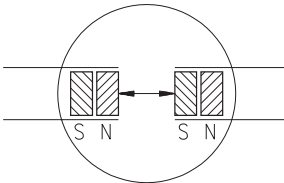

Fig. 19: Determination of the pole position. Joining the magnetic strip
- Check polarity before joining the two parts. Both ends must attract each other (if necessary, use compass needle). In case both ends have the same polarity, shorten one end by a half pole division (fig. 19).